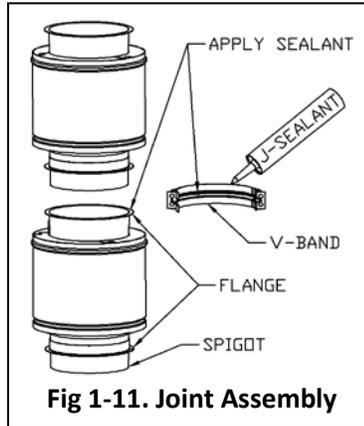

Fig 1-11. Joint Assembly
3. Apply J-600 Sealant continuously (1/8" bead minimum) to the flange surface of the pipe (See Fig 1-11).
5. Apply sealant to the inner groove of the V-Band (see Fig 1-11)